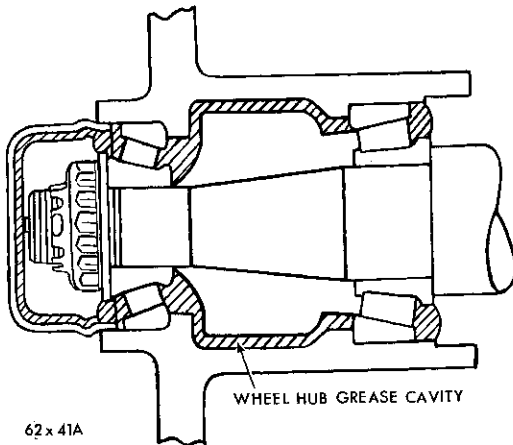

Fig. 3—Wheel Hub Grease Cavity
(1) If the bearing cups were removed, start the new cups into the hub evenly, driving them flush with the hub using a soft steel block and hammer. Seat the cups against the shoulders in the hub, using a soft steel drift and hammer.
(2) Fill the hub cavity (Fig. 3) with recommended wheel bearing lubricant. Lubricant should cover all surfaces of the hub and outer grease cup to minimize condensation and grease travel out of the bearings. **Do Not Overfill.**